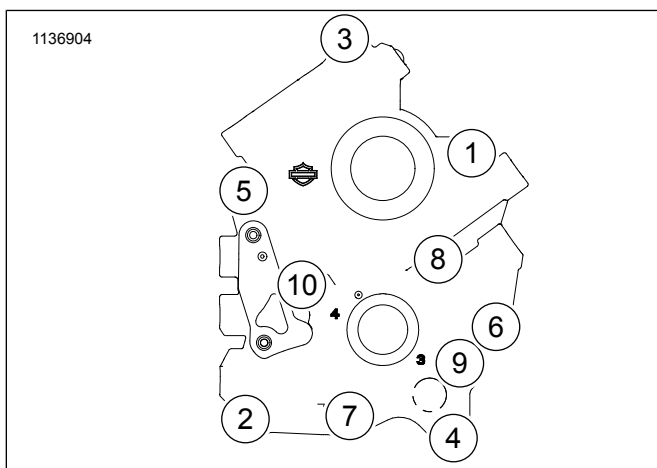

Figure 1. Cam Support Plate Tightening Sequence
- 2. Refer to Figure 1. Follow modified tightening sequence.